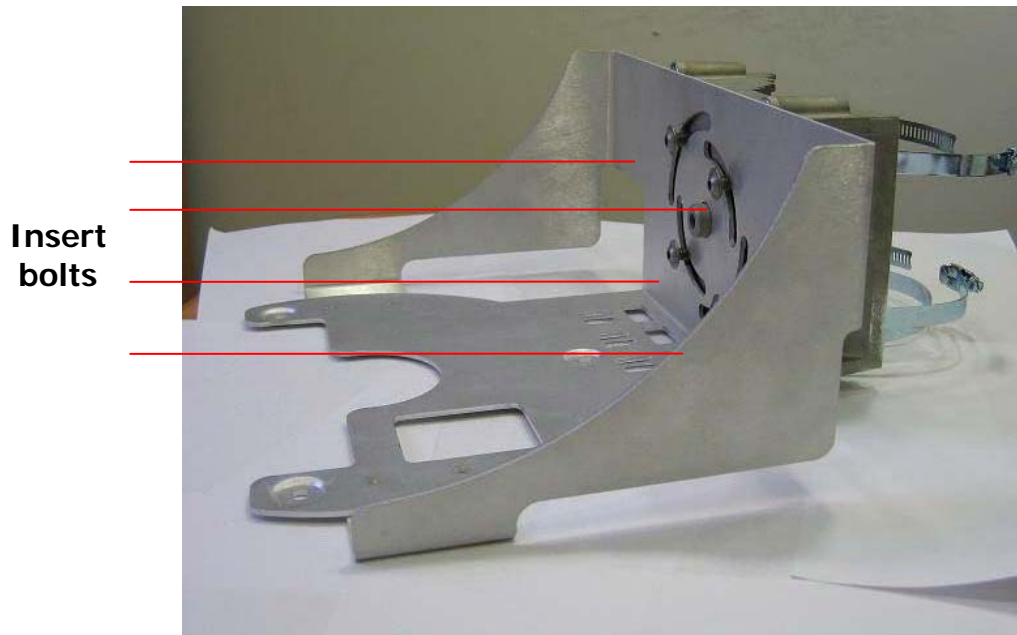

Figure 3.7 **Attaching the Tray to the Back Plate**
6. Attach the tray to the back plate as shown in Figure 3.7.